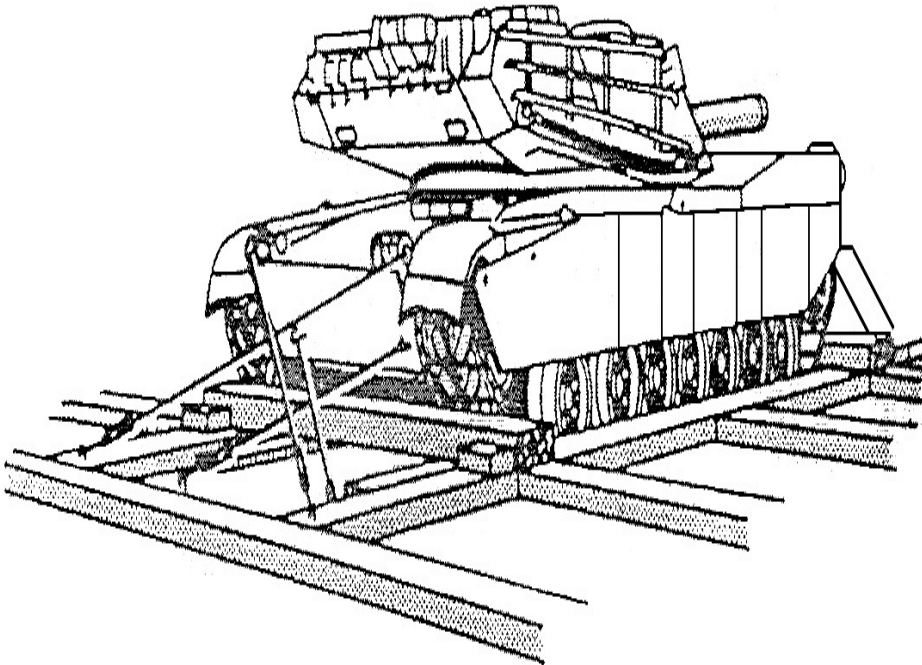

Figure 3-94
2. Load tracked vehicles aboard a cargo vessel (see Figure 3-94).
e. Secure vehicle(s) by placing gear lever in neutral (N) (multifuel) and engaging the handbrake.